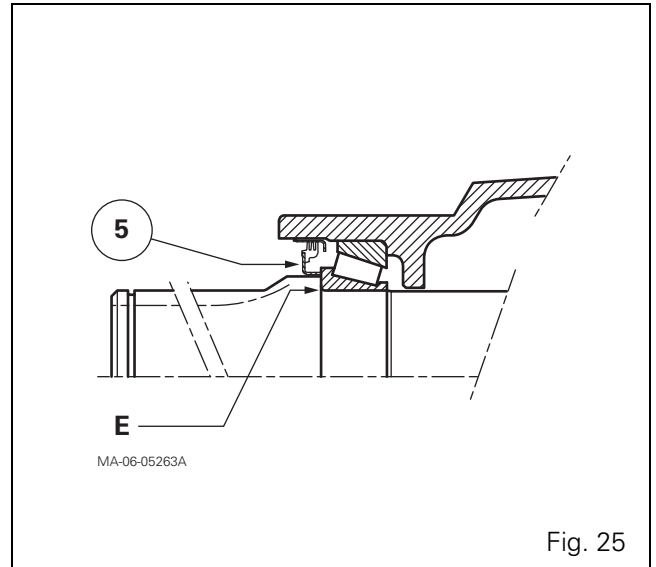

Fig. 25
95. Fit the new three-lipped seal (5) level with shoulder E (Fig. 25) of the flanged axle shaft or straight axle shaft.